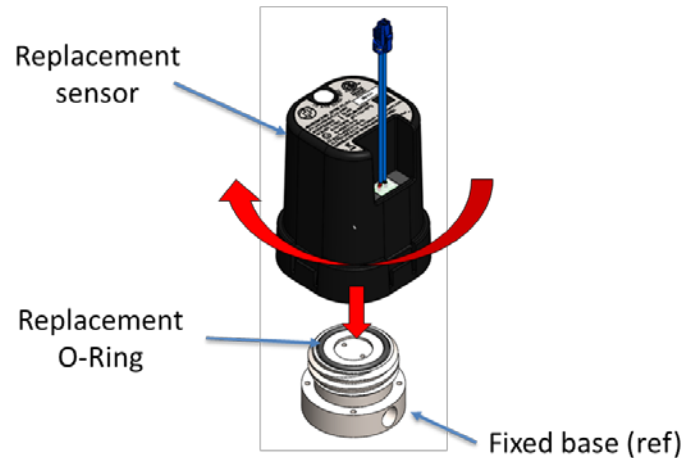

Figure 8, Sensor installation
5. Install the replacement sensor onto the end cap by threading on clockwise. Fully hand tighten sensor to ensure O-ring compression refer to Figure 8.